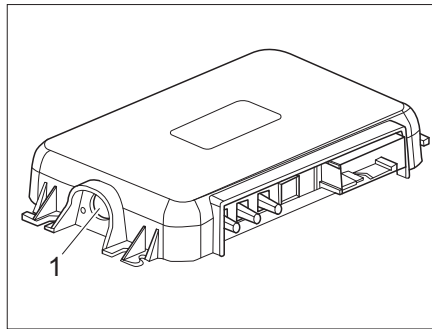

Fig. 299 Coupling button on the SCU
- Press on the SCU coupling button (Fig. 299,1).